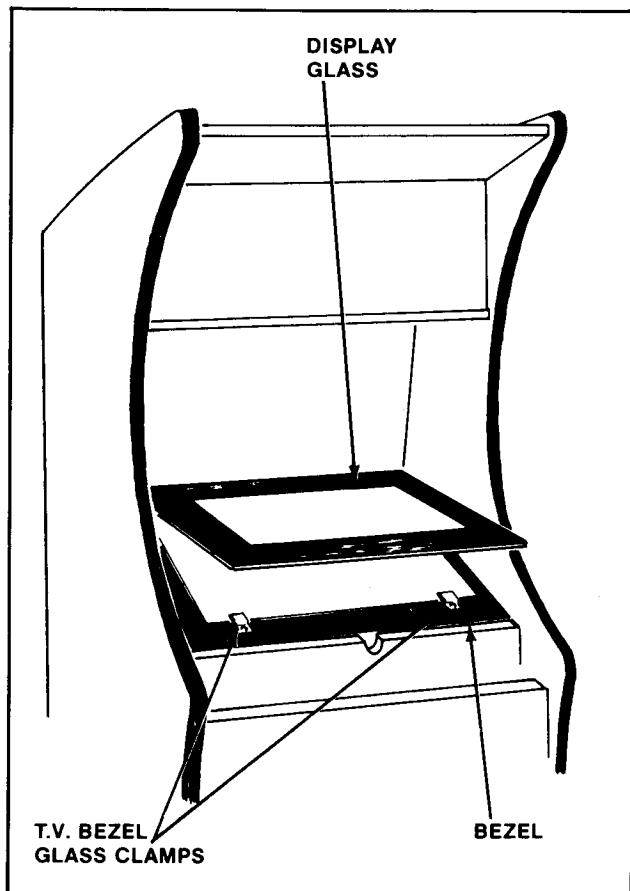

Figure 4-5 Removal of Main Display Glass & T.V.
1. UPRIGHT MODEL: See Figure 4-5.